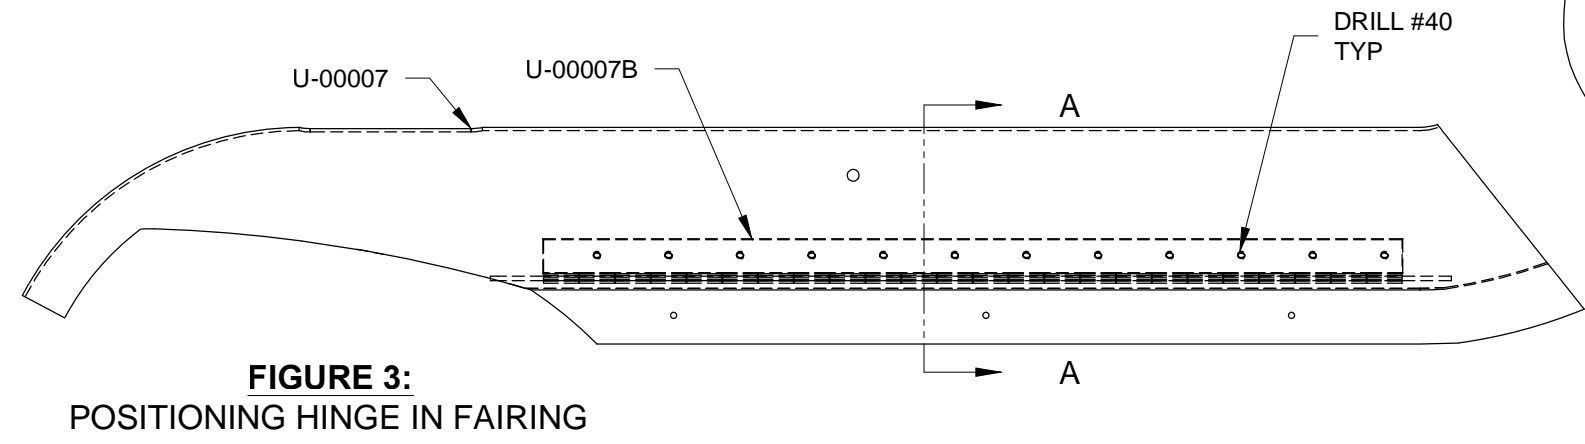

FIGURE 3: POSITIONING HINGE IN FAIRING
Step 3: Install clecos in the U-00007 Nose Leg Fairing. Position the U-00007B Nose Leg Hinge inside the trailing edge of the fairing and clamp the ends of one hinge half in place as shown in Figure 3.